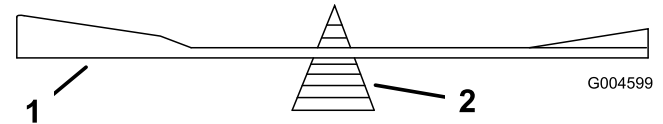

Figure 35
2. Check the balance of the blade by putting it on a blade balancer (Figure 35). If the blade stays in a horizontal position, the blade is balanced and can be used. If the blade is not balanced, file some metal off of the back side of the blade. Repeat this step until the blade is balanced.